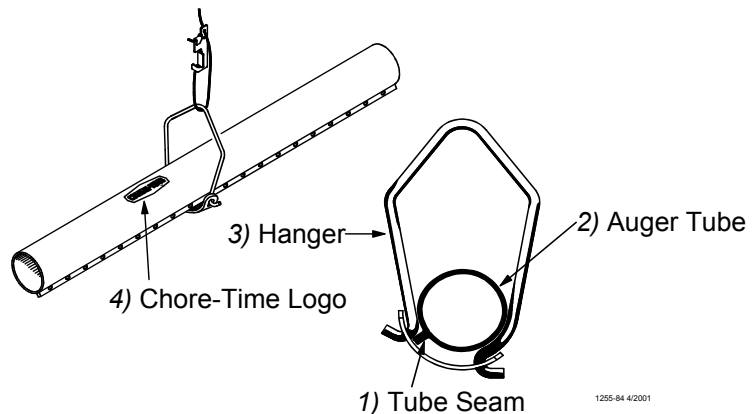

Figure 41. Hanger Installation
3. To achieve total feed drop out all along the system, the Chore-Time Logo should be centered at the crown of the tubes and all the Hangers should be installed as shown in Figure 41.
5. Install the Hangers on the feed line tube at the 8' [2.4 m] spacings determined by the suspension drop lines. **Figures 41 and 44** show the proper installation of the Hanger Assembly. Make sure the outlet drop hole is downward when the Hangers are installed, otherwise feed will not be allowed to drop into the feeder pan.